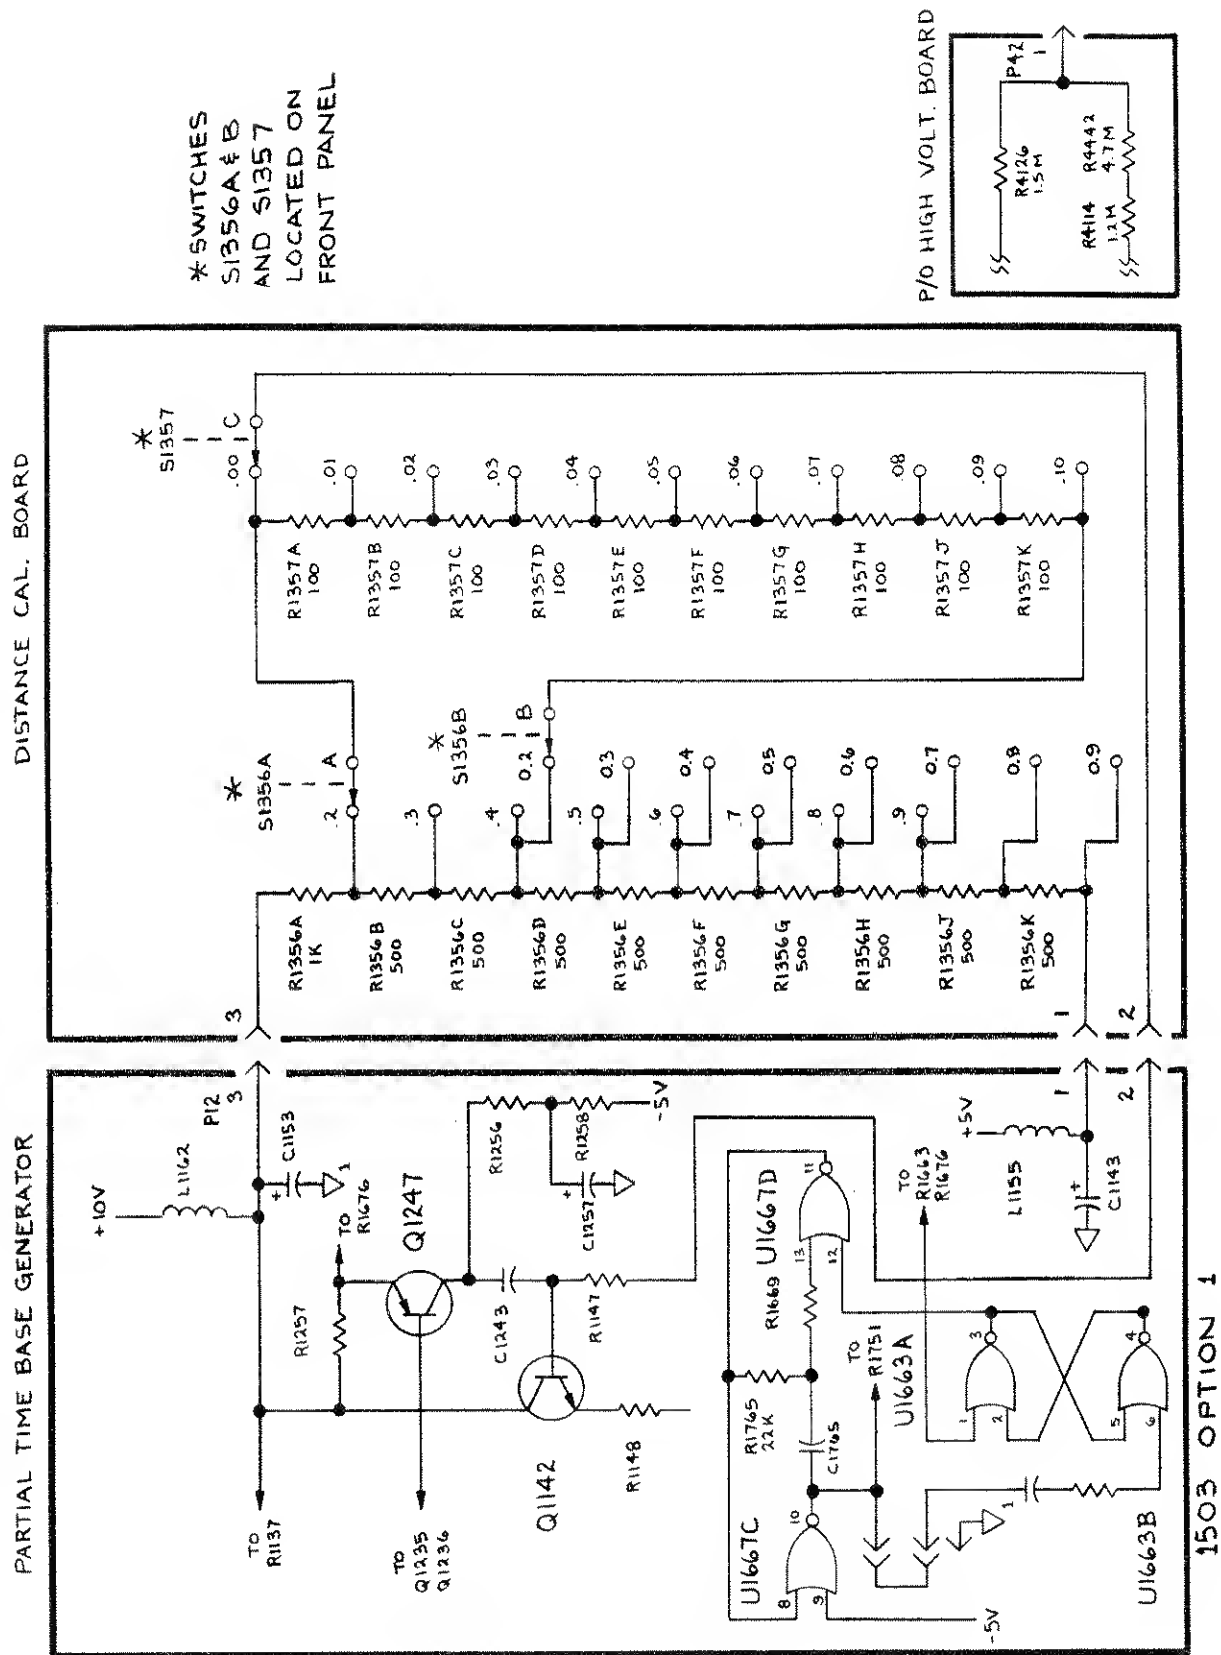

Fig. Option 1-3
2. The INTENSITY function has been removed and factory set; the FOCUS control has been relocated. A change in the High Voltage Board has been made accordingly. See Fig. Option 1-3.